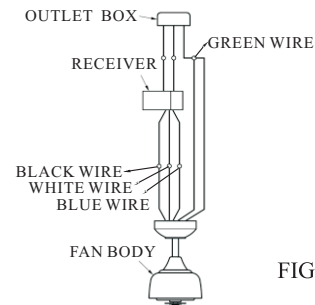

FIG.6
3. Install the safety cable into the building structure. (See fig.6)
2. Connect the white wire from receiver to the white wire from fan with wire nut. Connect the black wire from receiver to the black wire from fan with wire nut. Connect the blue wire from receiver to the blue wire from fan with wire nut. Connect the green wire from ceiling, and green wire from hanger bracket with green wire from downrod ball with wire nut. (See fig.6)